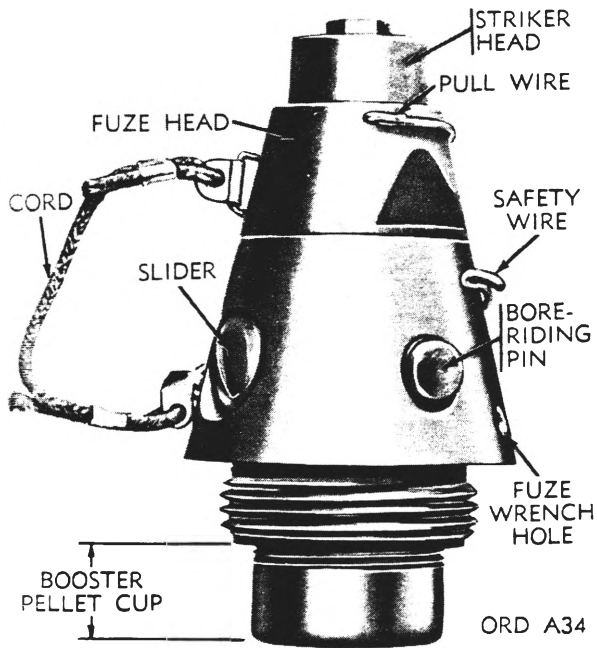

Figure 37. Fuze, point detonating: M525A1.
*a. Description.* These fuzes (figs. 36 and 37) are modifications of the fuzes M52 series. The modifications consist of the substitution (for the head of the fuzes M52 series) of a head assembly (fig. 38) containing a delayed-arming mechanism in addition to the firing pin mechanism. The modified fuze, which is designated M525 (fig. 36) for an earlier modification and M525A1 (fig. 37) for a later modification, may be described as a single-action superquick delayed-arming impact type consisting of the delayed-arming head (fig. 38) and the M52 body (fig. 30) containing slider, bore-riding pin, setback pin, and booster. The fuzes M525A1 and M525 are used with the 60-mm high-explosive cartridge M49A2, the 81-mm high-explosive and target practice cartridge of the M43 series, and the 81-mm smoke WP cartridges of the M57 series.